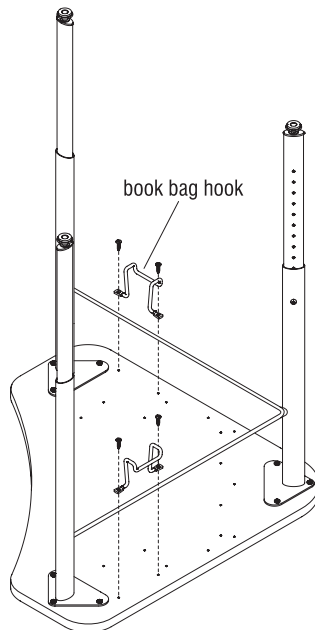

Figure 10
1. Carefully turn the desktop upside down on a soft, protective surface (Figure 10).
2. Position the book bag hooks, as illustrated onto the underside of the desktop, aligning to pre-drilled holes. Using the appropriate screws (See Details A & B, page 1), secure each hook to the desktop. Do not overtighten screws (Figure 10).